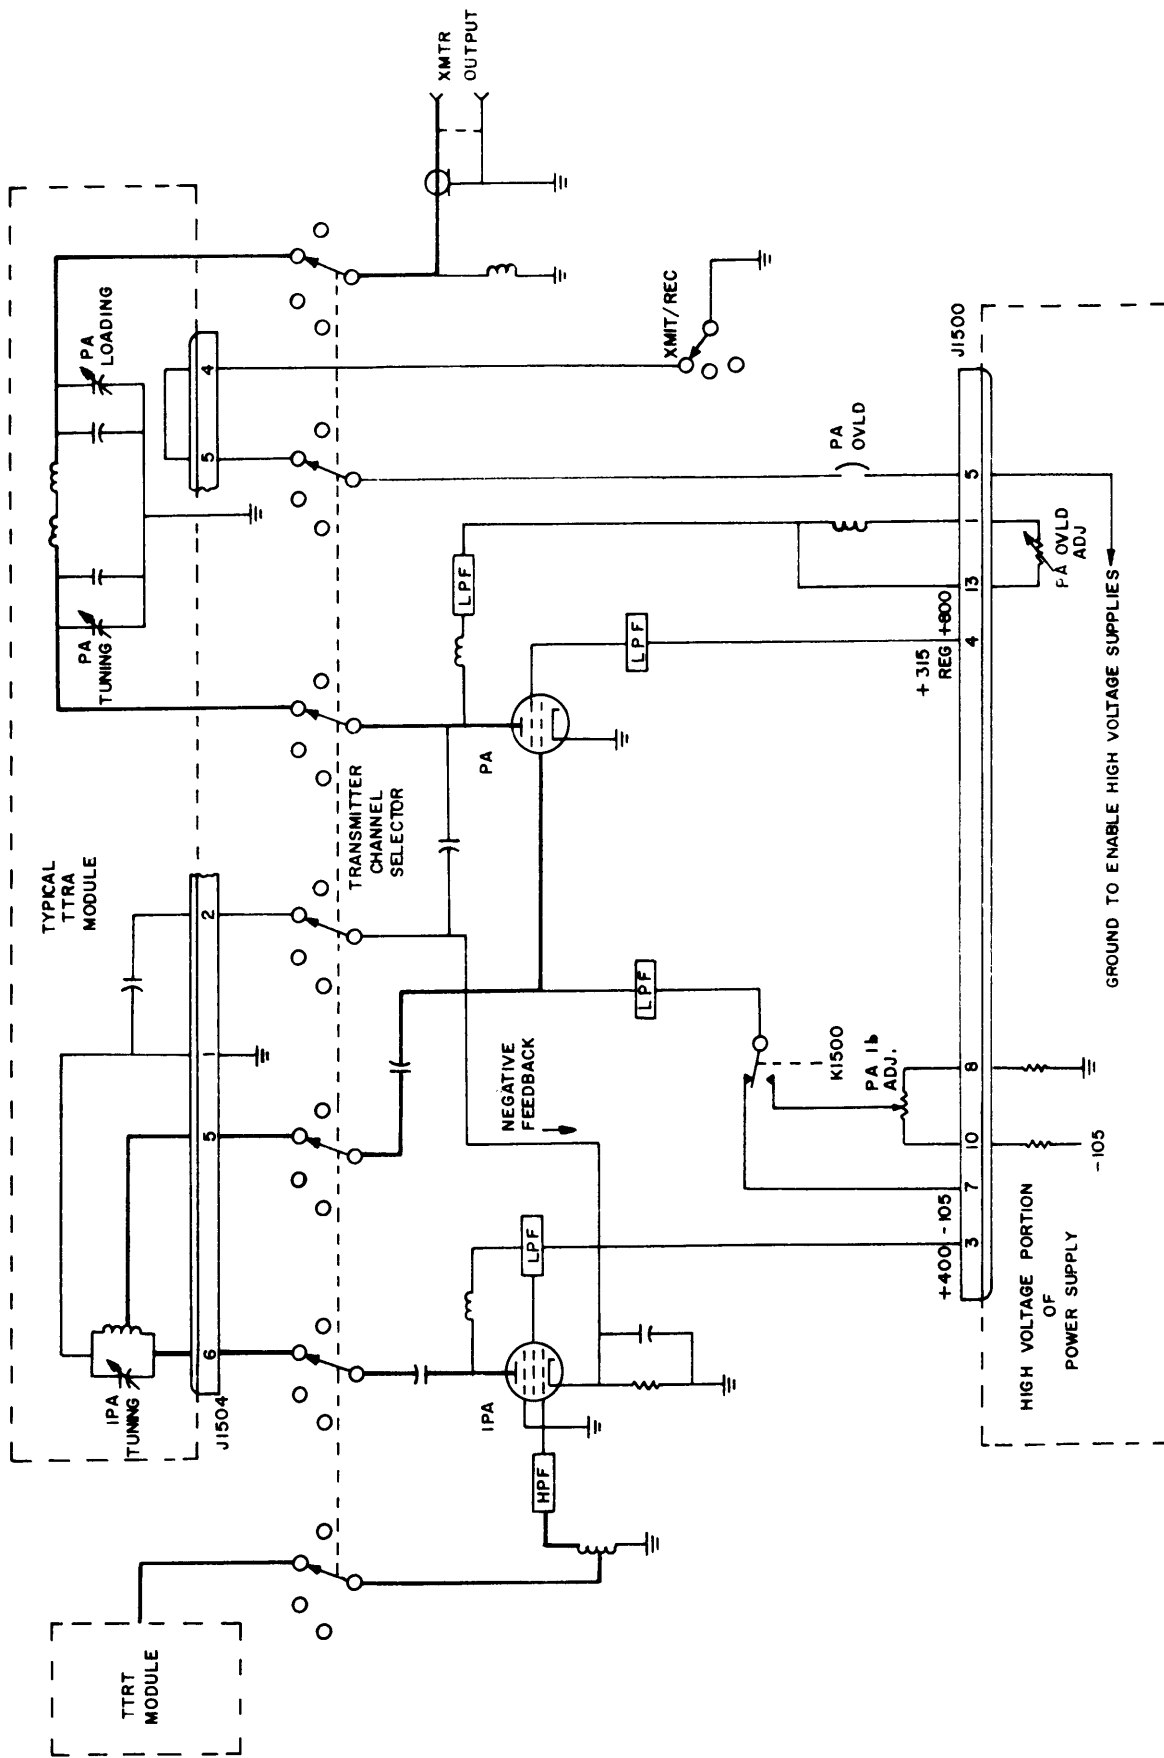

FIGURE 4-7. LINEAR AMPLIFIER, SIMPLIFIED SCHEMATIC
i. LINEAR AMPLIFIER. – The linear amplifier consists of two power-amplifier stages, switch selected tuning networks (TTRA modules), and overload protection circuits. The linear amplifier produces an output of 100 watts maximum peak envelope power from an input of 250 milliwatts. (Refer to figure 4-7.)